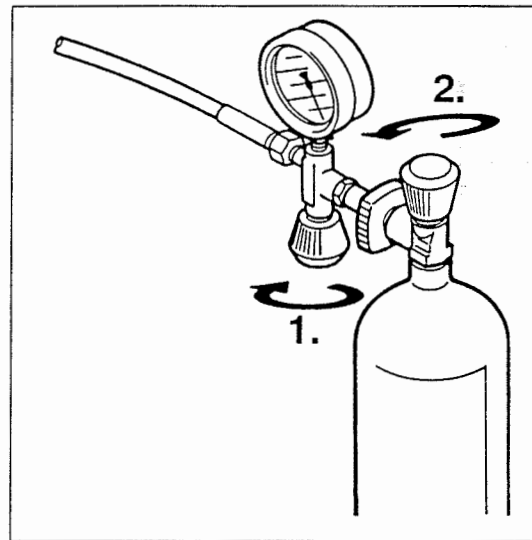

Fig. 26 Filling air bottle
- Open filling valve (1, Fig. 26).
- Open bottle valve (2) – bottle will be filled. Drain condensate regularly during filling. On units with automatic condensate drain check that condensate is drained regularly.